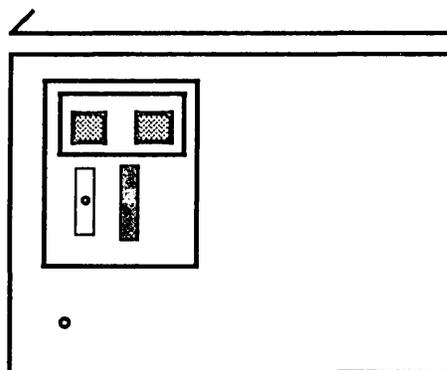

Figure 1.3 - Kurzweil 4000 Disk Drive
1. When the *Status Prompt (OK!)* is displayed, insert Volume 1 of the Software Release set in the disk drive (refer to *Figure 1.3*). Software releases may reside on one or more floppy disks. Ensure that the the floppy disk is inserted properly (label to the right) and close the door securely.